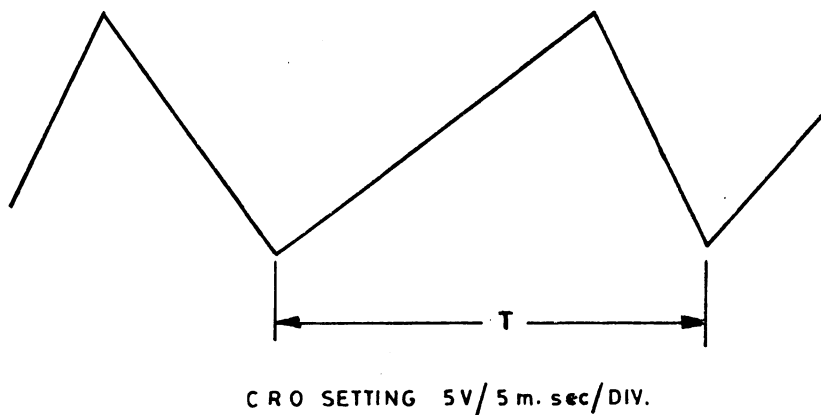

Fig. 11.3
6. Check up whether the period 'T' is 20 mSecs. (Fig. 11.3).